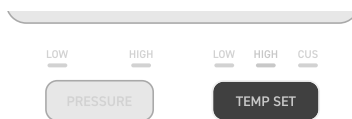

Figure 5.3
4. Press **TEMP SET** to select a LOW or HIGH temperature. [Figure 5.3]